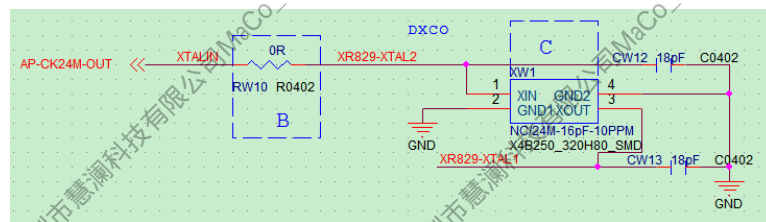

Figure 2-33 The XR829 Circuit Design Without 24M Crystal
- The XR829 can be used in combination with the 24M FANOUT of R818 DCXO to achieve the purpose of saving crystal. If the XR829 uses the 24M FANOUT of DCXO, the CLKREQOUT pin needs to connect to the WREQIN pin of the SoC, the XTAL2 pin needs to connect to the AP-CK24M-OUT pin of the R818, and the XTAL1 pin needs to connect to GND, as shown in Figure 2-33. If the XR829 does not use the 24M FANOUT of DCXO, the CLKREQOUT pin of the XR829 needs to be floated, the WREQIN of the XR829 needs to connect to GND, and the XTAL1 and XTAL2 need to connect to the external crystal.